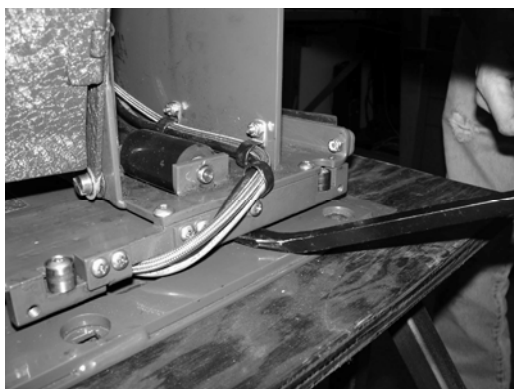

FIGURE 16
4. Refer to **FIGURE 16**. Pry up on front rail to remove lift weight on roller. Push pin, bushings, and sleeve out.